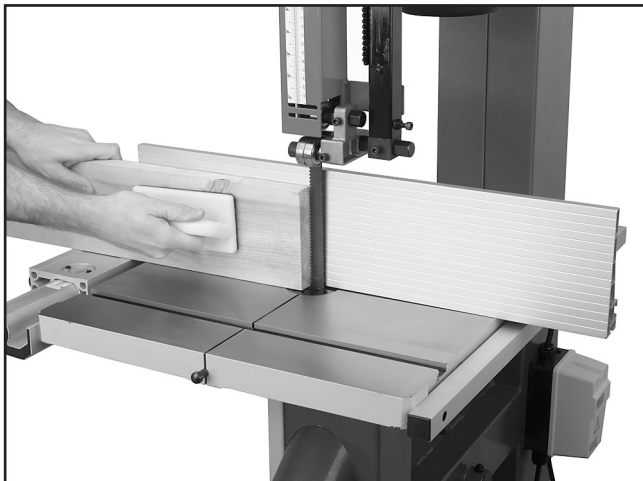

Figure 31. Typical resawing operation.
"Resawing" (**Figure 31**) means cutting the thickness of a board into two or more thinner boards. The maximum board width that can be resawn is limited by the maximum cutting height of the bandsaw.
6. Using push paddles and a push stick, maintain workpiece pressure against the fence and table, and slowly feed the workpiece into the moving blade until the blade is completely through the workpiece (see **Figure 31**).